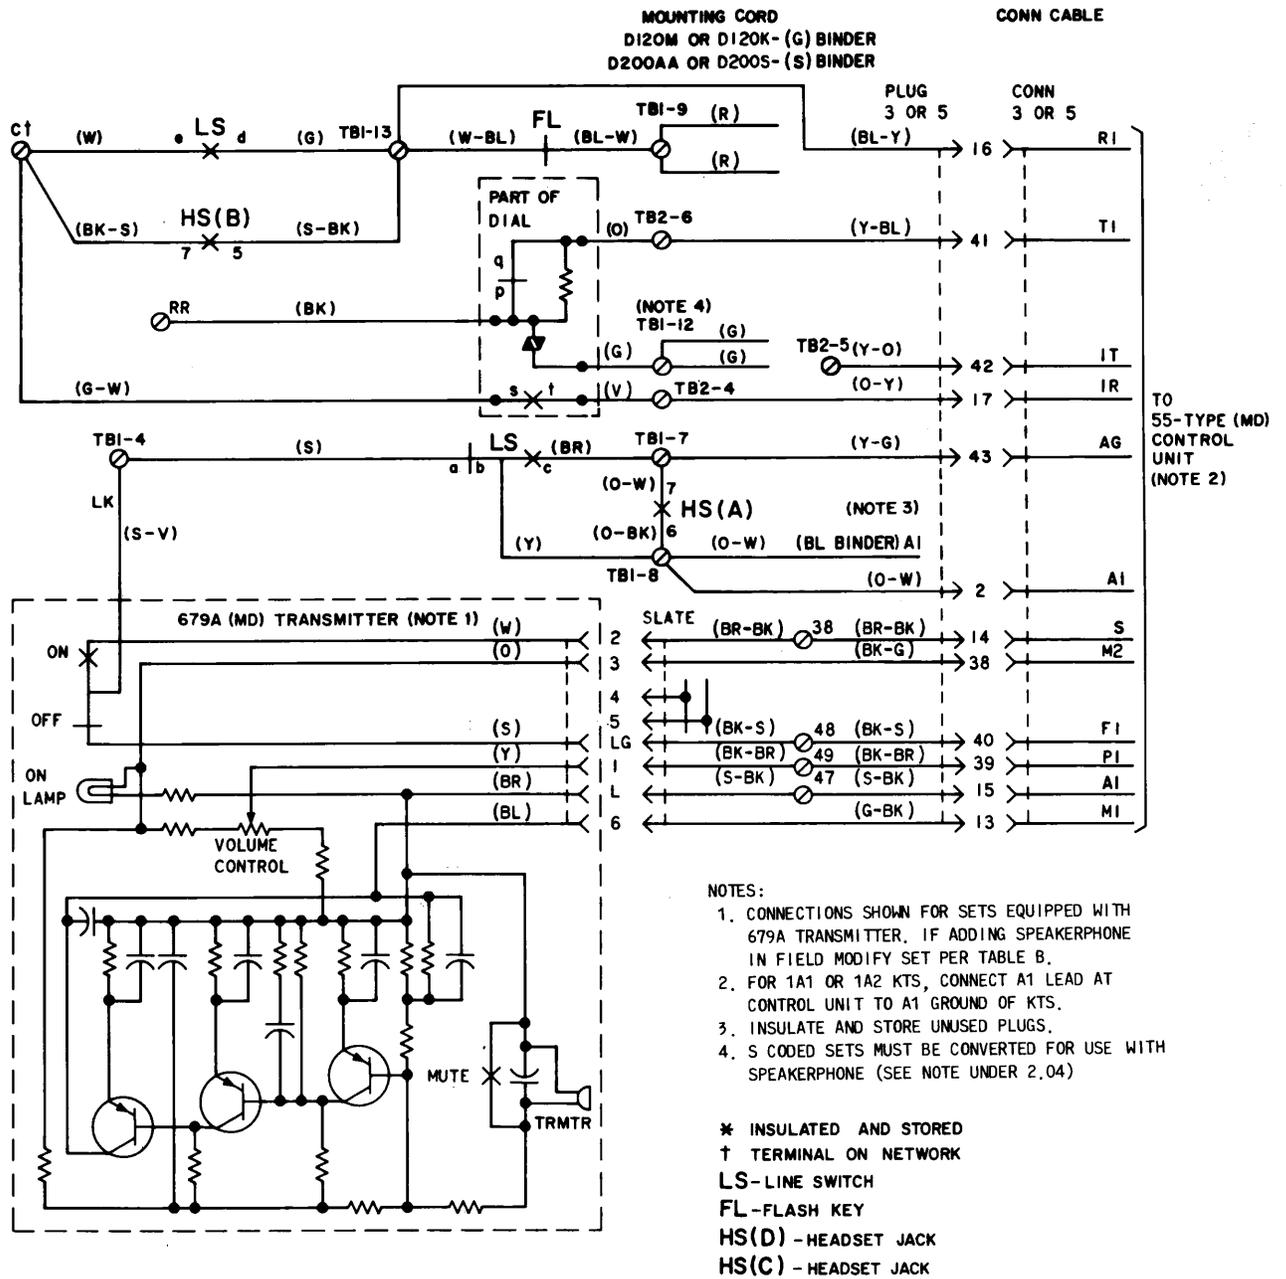

Fig. 5—Speakerphone Connections, Using Internal 679A (MD) Transmitter
2.04 Sets may be equipped for internal speakerphone by the addition of a 679A (MD) transmitter in the 3rd (2682AA) or 5th (2683AA) module. Figure 5 and Table B show wiring of sets with speakerphone when transmitter is internal using a 55-type (MD) control unit.♦
1. THE 635AD5C KEY IS SUPPLIED WITH AN ADAPTER IN THE CUTOFF KEY POSITION. SLATE MOUNTING CORD PLUG IN (BL) BINDER CONNECTS TO THE ADAPTER. BALANCE OF PLUGS CONNECT DIRECTLY TO KEY. CONNECT (BL-Y) AND (Y-BL) ADAPTER LEADS TO TERMINAL 1 AND 2, RESPECTIVELY, ON S CODED TELEPHONES TERMINAL 1 IS USED FOR THE NEW LINE SWITCH. CONNECT THE (BL-Y) ADAPTER LEAD TO THE (BL-Y) MOUNTING CORD LEAD USING A SPARE TERMINAL OR A D161488 CONNECTOR.
2. IN SETS EQUIPPED WITH A 698A KEY, THE (G) CONTACT STRIP LEAD IS TERMINATED ON 17 AND (R) ON 18. IF A 658A KEY IS ADDED IN THE FIELD, LEADS MUST BE MOVED FROM PRECEDING MODULE CHAINING CIRCUIT TO TERMINALS 17 AND 18.
5. MODULE MAY ALSO BE EQUIPPED WITH A 679A (MD) TRANSMITTER FOR INTERNAL SPEAKERPHONE. SEE FIG. 5 AND TABLE B.
7. REFER TO FIG. 5 FOR CONNECTIONS WHEN ASSOCIATED WITH 679A (MD) TRANSMITTER.
11. THESE CONTACT STRIPS ARE REQUIRED WHEN TELEPHONE SET IS EQUIPPED WITH THE D120K (MD) OR D200S(MD) MOUNTING CORD. THESE CONTACT STRIPS SHOULD NOT BE USED WHEN TELEPHONE SET IS EQUIPPED WITH THE D120M OR D200AA MOUNTING CORD OR WHEN TELEPHONE SET IS EQUIPPED WITH A MODIFIED D120K OR D200S MOUNTING CORD.